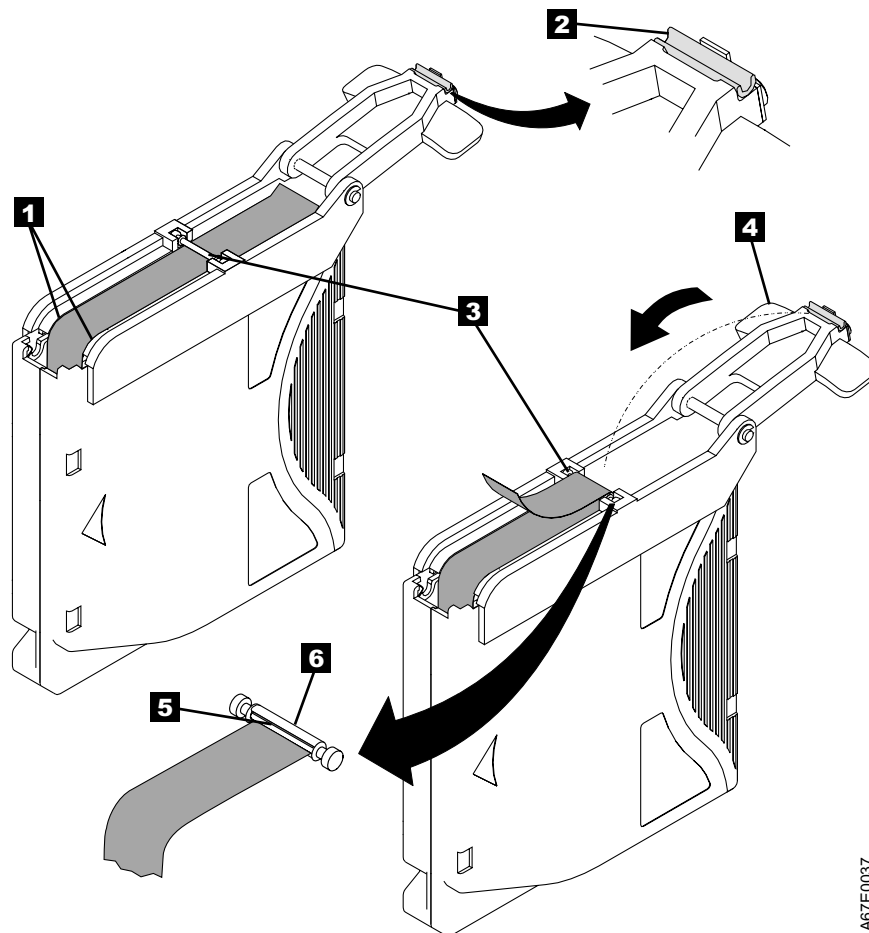

Figure 61. Attaching the leader pin to the tape
7. Position the tape in the alignment groove of the leader pin attach tool (see **1** in Figure 61 on page 76).
8. Place a new C-clip into the retention groove **2** (Figure 61 on page 76) on the leader pin attachment tool and make sure that the clip's open side faces up.
9. Place the leader pin (from step 6) into the cavity **3** (Figure 61 on page 76) of the leader pin attach tool.
10. Fold the tape over the leader pin and hold it with your fingers (see Figure 61 on page 76).